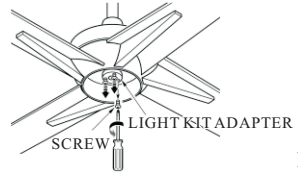

FIG.14
1. Remove the 3 screws on light kit adapter.(See fig.14)